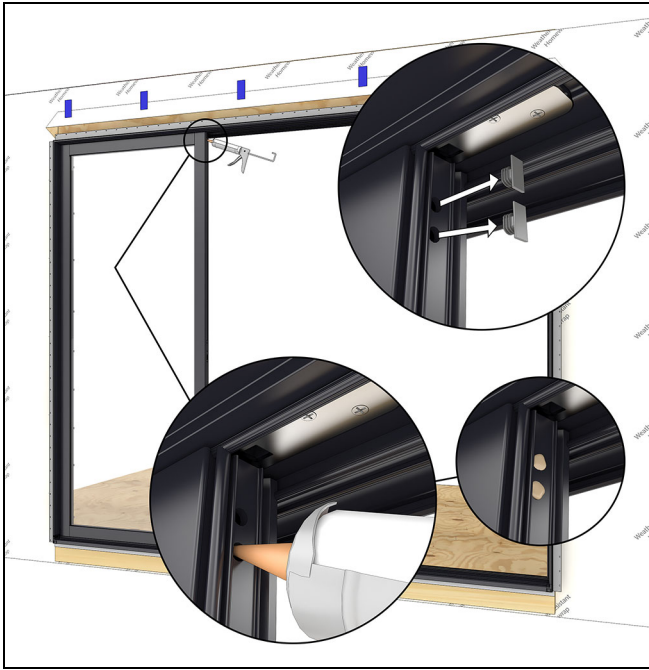

Figure 101
3. Remove the rubber stile plugs and fill the holes with sealant (CSL 343 or equivalent silicone sealant). See Figure 101.